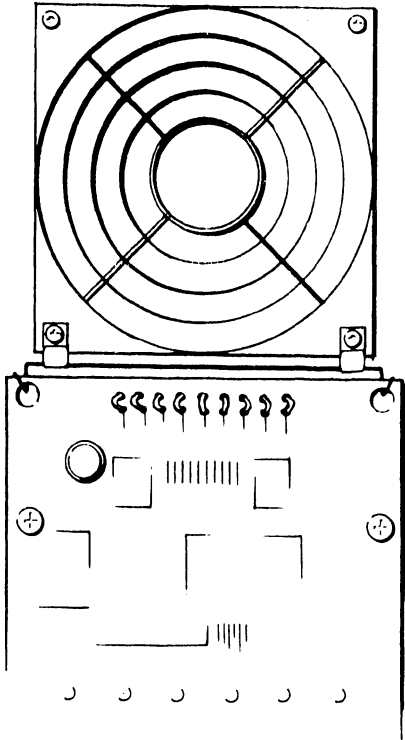

FIGURE 7-9 FRONT PANEL MOUNTED ON CHASSIS
1. Open the hinged panel on the right side of the frontcover and remove the Front Panel board from it. Hang the Front Panel board on the hook provided for it on the main chassis. (See Figure 7-9.)
5. Hang the Front Panel on the hooks attached to the fan located just above the Front Panel. (See Figure 7-9.)